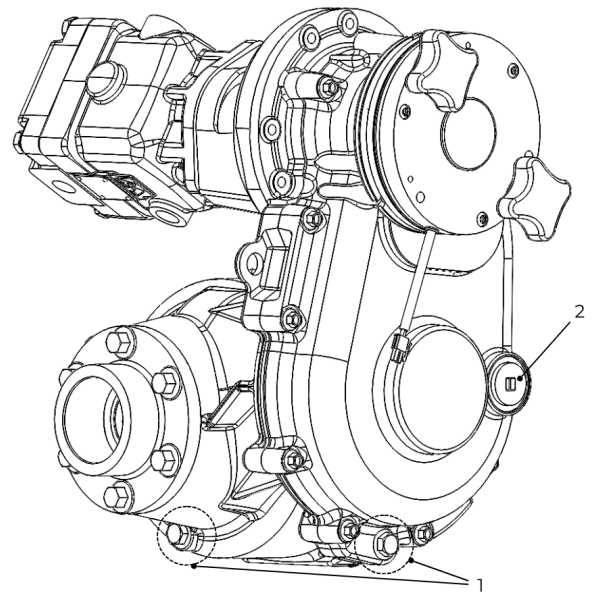

Figure 39. Aluminum Case Drain and Filler Plugs.
2. Remove the aluminum case filler plug (2). (Figure 39)